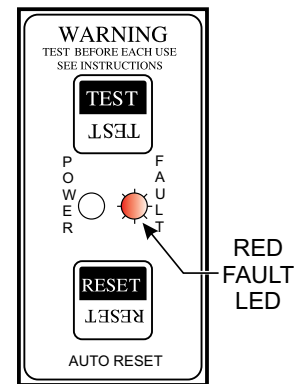

Figure 65. GFCI Sensing Module Red Fault LED Flashing
2. Verify that the **RED** fault LED on the GFCI sensing module starts **flashing** (Figure 65).